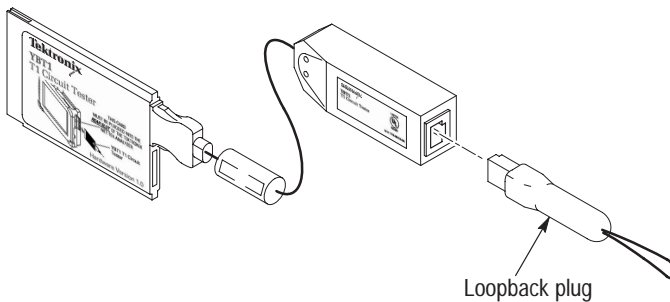

Figure 1–5: Inserting the Loopback Plug into the T1 Line Interface
1. Insert the RJ48 Loopback Plug into the T1 Line Interface as shown in Figure 1–5.